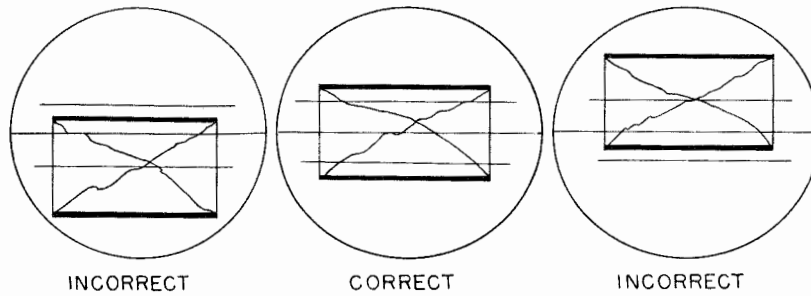
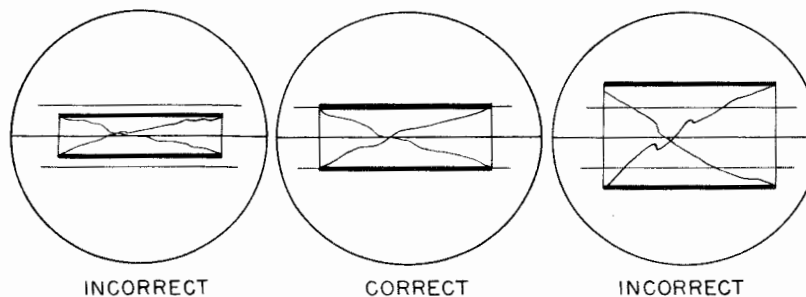

Figure 3-16. Radio Receiver Tuning Patterns as Seen on Tuning Monitor
Figure 3-17. Tuning Pattern (CAL IN) on Tuning Monitor
(11) Disconnect the Model LP signal generator and tune the radio receiver to a frequency shift signal. With the VERT GAIN control, adjust the separation of the two lines on the cathode-ray tube to a convenient distance apart.
(12) Adjust receiver tuning (main dial on receiver and TUNING dial, C105, on Converter) to center the lines on the cathode-ray tube (see Figure 3-16).
(13) Set TUNE-OPERATE switch, S302, to OPERATE; teletypewriter may start printing.
(14) Push CAL IN button and adjust THRESHOLD control, R318, to produce a pattern on the cathode-ray tube which matches the top and bottom lines engraved on cathode-ray tube window (see Figure 3-17).